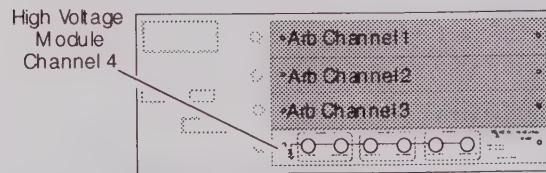

Figure D-1. High Voltage Module Location
2. Remove the cover plate or arb channel board from Channel 4; refer to Figure D-1.